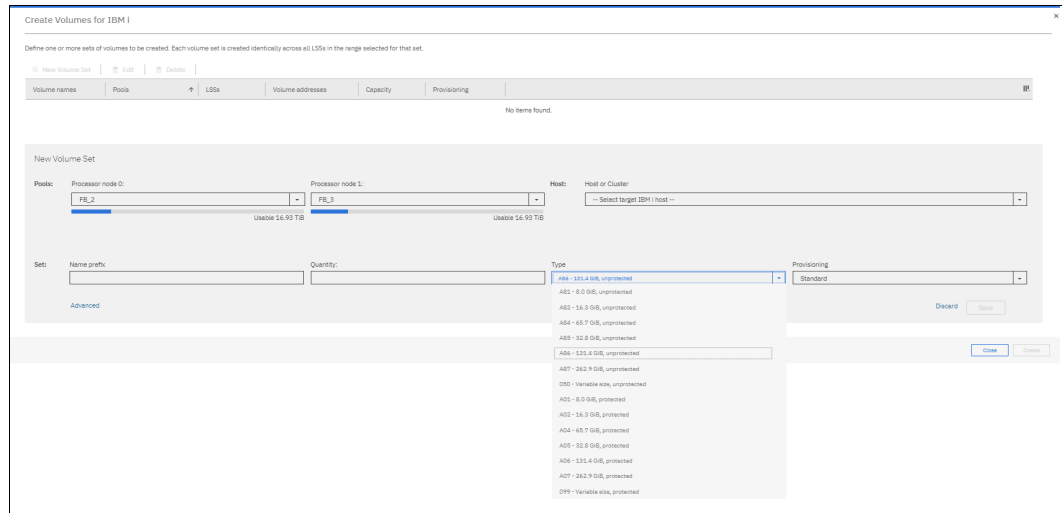

Figure 9-50 Creating IBM i volumes
1. Click the **Create Volumes for IBM i** option. The window that is shown in Figure 9-50 on page 282 opens.